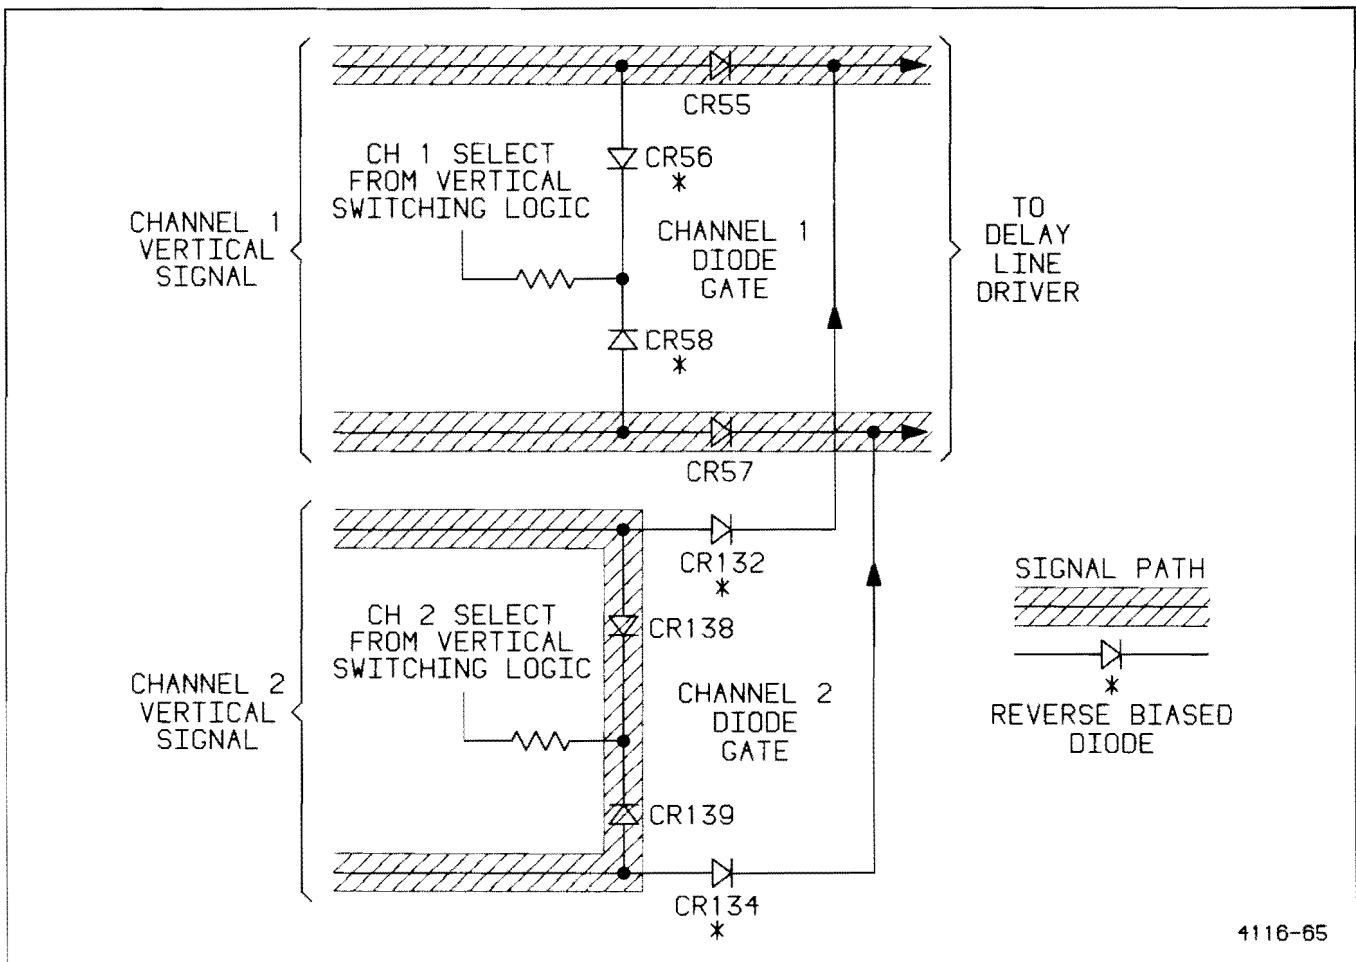

Figure 3-4. Diode Gate biasing for Channel 1 display.
**CHANNEL 1 DISPLAY ONLY.** To display only the Channel 1 signal, the CH 1 Select signal is HI and the CH 2 Select signal is LO. With CH 1 Select HI, diodes CR56 and CR58 are reverse biased (see Figure 3-4). Series diodes CR55 and CR57 are forward biased, and the Channel 1 vertical signal is allowed to pass to the Delay Line Driver. In the Channel 2 Diode Gate (with the CH 2 Select signal LO) CR138 and CR139 are forward biased, and the Channel 2 vertical-signal current is shunted away from series diodes CR132 and CR134. The series diodes are reverse biased, and the Channel 2 signal current is prevented from reaching the Delay Line Driver.